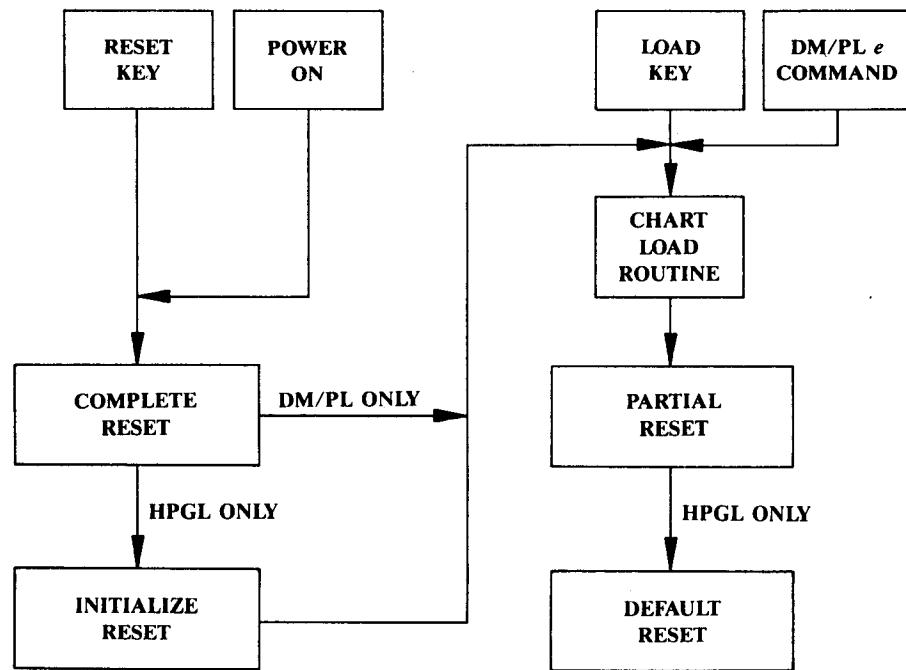

FIGURE 2-2. COMPLETE AND PARTIAL RESETS
- The plotter has two types of resets: complete reset and partial reset, which vary in extent. A partial reset typically occurs after loading a chart or as the result of a complete reset. A complete reset occurs at power on or as the result of operator action. Figure 2-2 shows how either form of reset can be initiated. For example, if you press the control panel **RESET** key during a plot, a complete reset and partial reset occur. If you press the **LOAD** key during a plot, only a partial reset occurs. Table 2-2 lists the values affected by a complete reset. The values affected by a partial reset are listed in Table 2-3.